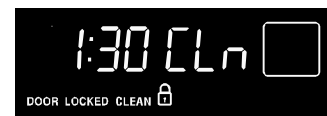

Fig. 3
4. As soon as the control is set, the motor driven oven door lock will begin to close automatically. Once the door has been locked the "**DOOR LOCKED**" indicator light will quit flashing and remain on. The Cooktop locked icon will remain on (Fig. 3).